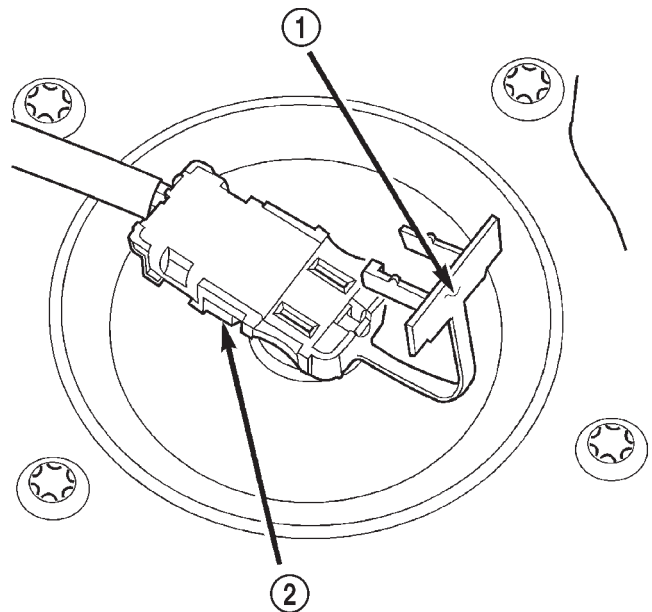

Figure 3
11. Remove the passenger airbag module from the vehicle. Release the yellow wiring connector lock tab on the side of the module (Figure 3) and then remove and discard the module wiring jumper to insure that the old module DOES NOT inadvertently get installed on any other vehicle. Set the module aside for return to the warranty return center.